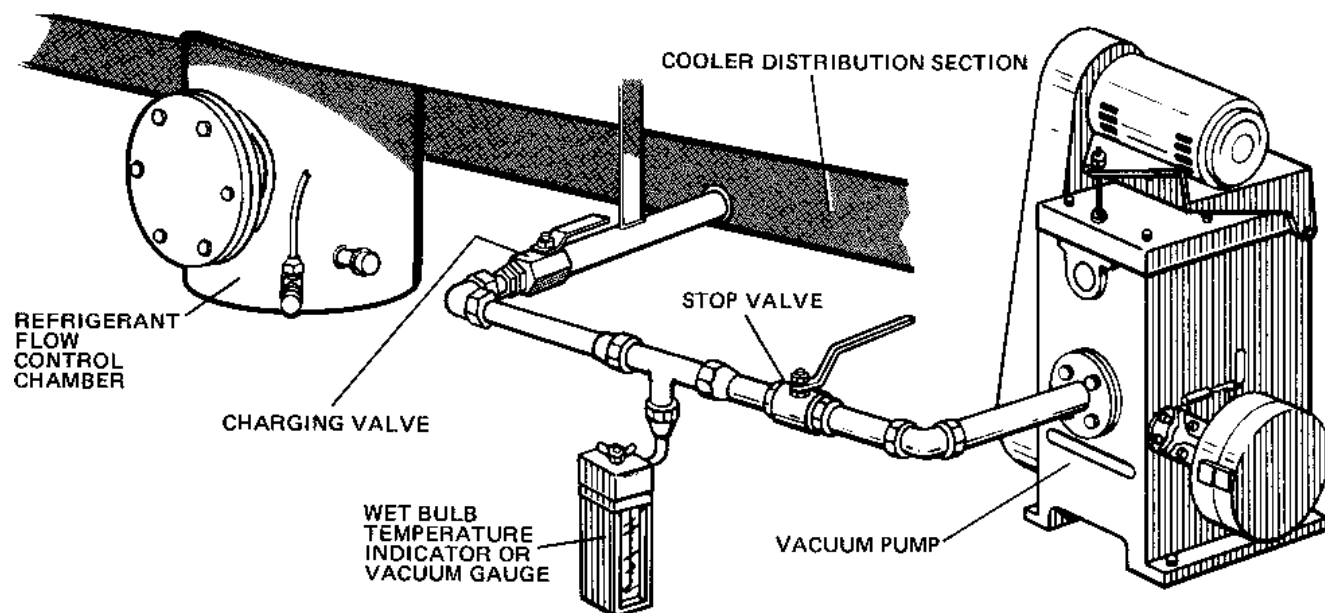

FIG. 28 - EVACUATION OF CHILLER
1. Connect a high capacity vacuum pump, with indicator, to the system charging valve as shown in Fig. 28 and start the pump (see "Vacuum Dehydration").
the source of hot water under pressure and the cooler head drain connection, out the cooler vent connection, into the condenser head drain and out the condenser vent. To avoid the possibility of causing leaks, the temperature should be brought up slowly so that the tubes and shell are heated evenly. Close the system charging valve and the stop valve between the vacuum indicator and the vacuum pump. (See Fig. 28) Then disconnect the vacuum pump leaving the vacuum indicator in place.